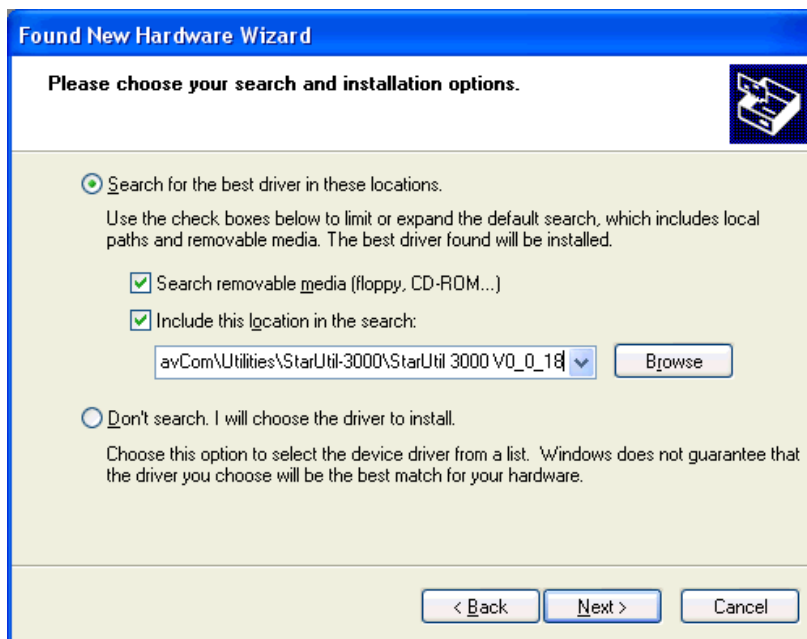

Figure 34: Found New Hardware Wizard/Choose Your Search and Installation Options
5. On the *Please choose your search and installation options* dialog box, select *Search for the best driver in these locations*, and then click *Browse* (see Figure 34).